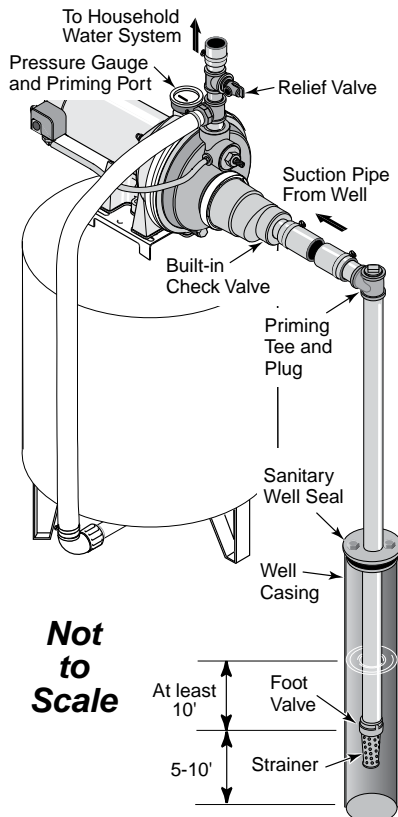

Figure 6: Cased Well Installation
Cased Well Installation, 2” or Larger Casing (Figure 6)
4. Assemble the foot valve, strainer, and well pipe (see Figure 6). Make sure that the foot valve works freely.
6. Install a priming tee, priming plug, and suction pipe to the drop pipe (see Figure 6). If the distance from the well to the pump is substantial, add a priming tee at the pump. Connect the pipe from the well to the pump suction port, using the fewest possible fittings – especially elbows – as fittings increase friction in the pipe. The suction pipe should be at least as large as the suction port on the pump. Support the pipe so that there are no dips or sags in the pipe, so it doesn’t strain the pump body,